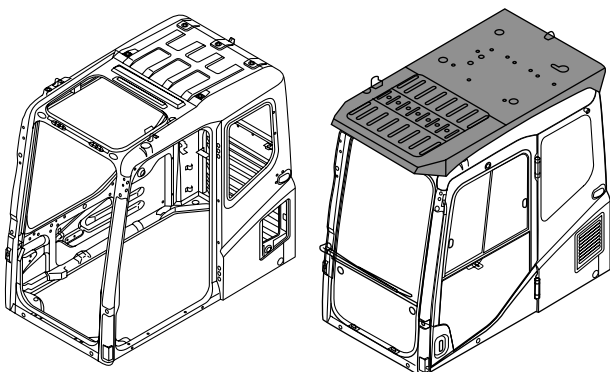

Fig. 13 Frame Structured Operator's Cab and Top Guard
- (1) The operator's cab is made of a strengthened frame that is molded in one piece by a press. It has an increased shock absorbing capability and excellent durability. It also conforms to the standard for head guards in the Japan's Industrial Safety and Health Law that is intended to protect an operator from a heavy falling object while inside a cab. The law says that a cab must withstand the impact without an additional guard being installed on the top. In addition, a top guard, which conforms to Level 2 of ISO OPG (Operator Protecting Guards), and a front full guard are also prepared as an add-on type optional attachment for a construction site like a quarry where there is a potentially big danger of falling objects. (See Fig. 13)